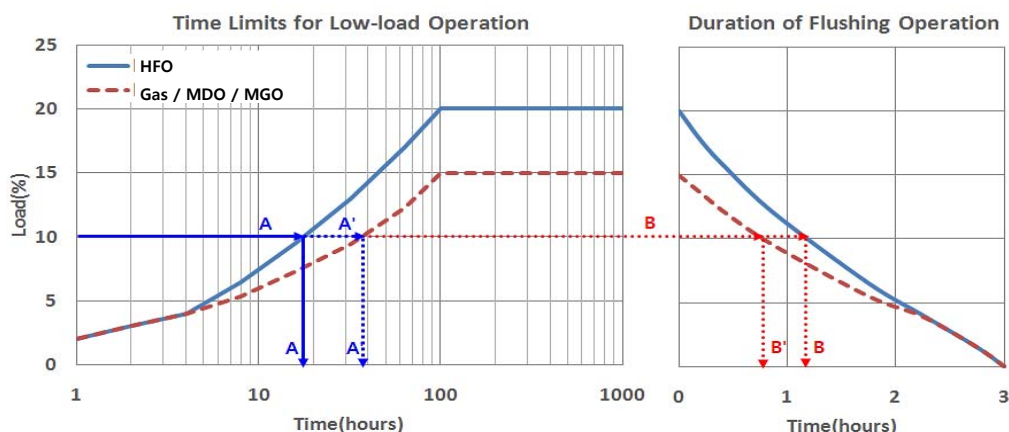

Figure 5.4 Time limits for low load operation
- ✓ Below 15 % load operation : load up over 70 % load at every limited time at corresponding load in Figure 5.4.
- ✓ Below 20 % load operation : load up over 70 % load at every limited time at corresponding load in Figure 5.4.
Duration of flushing operation (See Figure 5.4)